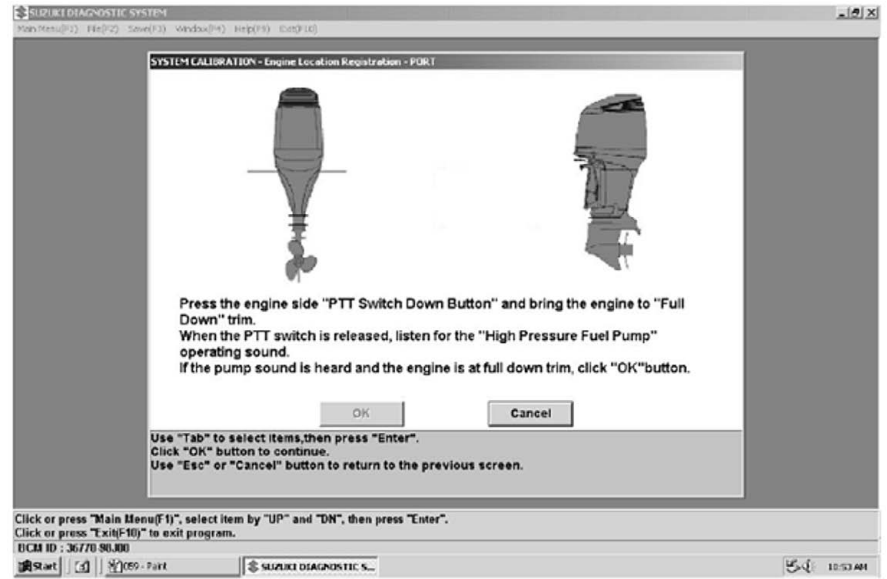

Figure 6-14. Registering the engine position
4. The wizard will then guide you to trim each engine down in turn in order to register their position in the boat control module (BCM). Follow the on-screen instructions. An example is shown in Figure 6-14.